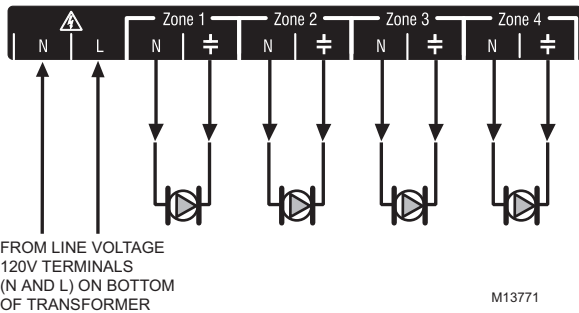

Fig. 9a Wiring an AQ1554P2 Zoning Module for use with line voltage circulators.
- a. For line voltage circulators (Figure 9a), remove the plastic wiring barrier (factory-installed) that's located in the bottom wiring channel between the AQ1500 Control Module and the Zoning Module. Run jumper wires from the N and L terminals on the bottom of the Control Panel's transformer through the wiring channel across the bottom of the Control Panel to the corresponding N and L terminals of the Zoning Module.